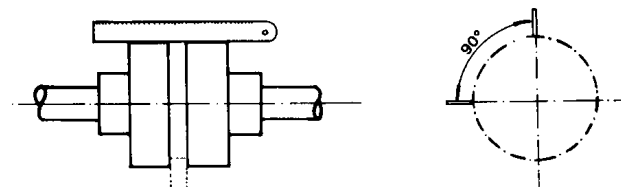

Figure 6 – Alignment with straight edge and feeler gauge.
- a. Check axial clearance of coupling every 90°, according Figure 6. Axial clearances should be examined using feeler gauge.
- b. Use a straight edge to check radial alignment, according Figure 6. Place the straight edge across the two rims of the sleeve coupling and check if there is no light path between the edge and the coupling. Perform verification every 90°.